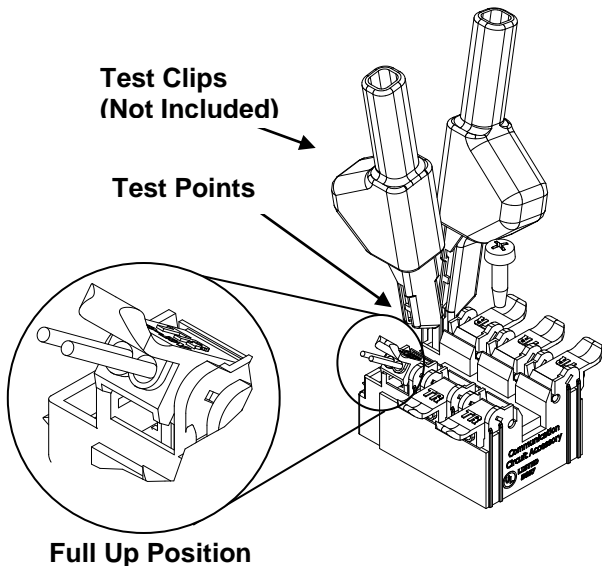

Figure 2
5. Lift the rocker labeled MTA to the full up position. DO NOT strip wires. Hold the wire pair to be terminated between thumb and index finger. Insert wires into wire guides simultaneously until they bottom-out. While holding wires in position, terminate rocker by lowering to the full DOWN position (See Figure 2).
7. Test for line continuity using the test points. (Figure 2)